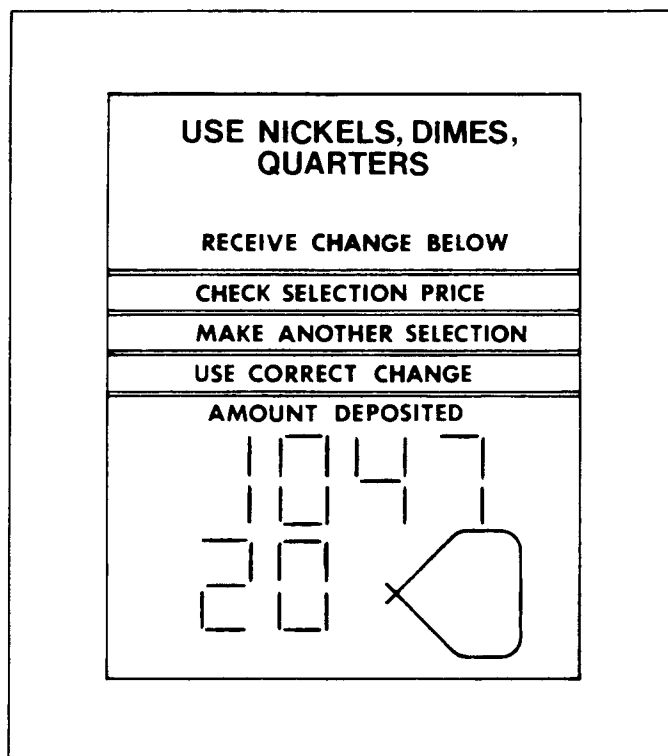

Figure 19. SHOWING A SERIAL NUMBER OF 104720
- Change or enter a new whole number by pressing the panel numerals. Numeral #10 equals 0 (Figure 19).